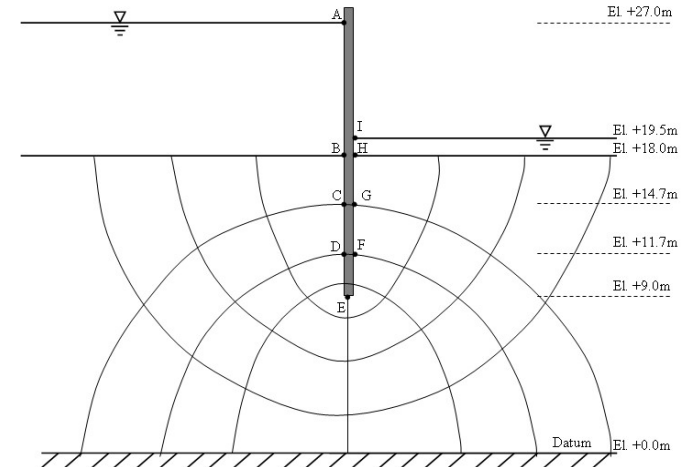

Fig.4
- (c) A sheet pile wall (shown in figure 4) is driven into a silty soil having co-efficient of permeability of  $0.5 \times 10^{-6}$  cm/sec. The length of the last element is 3.45 m. Find the pore pressure at points B, C, F and also exit gradient.